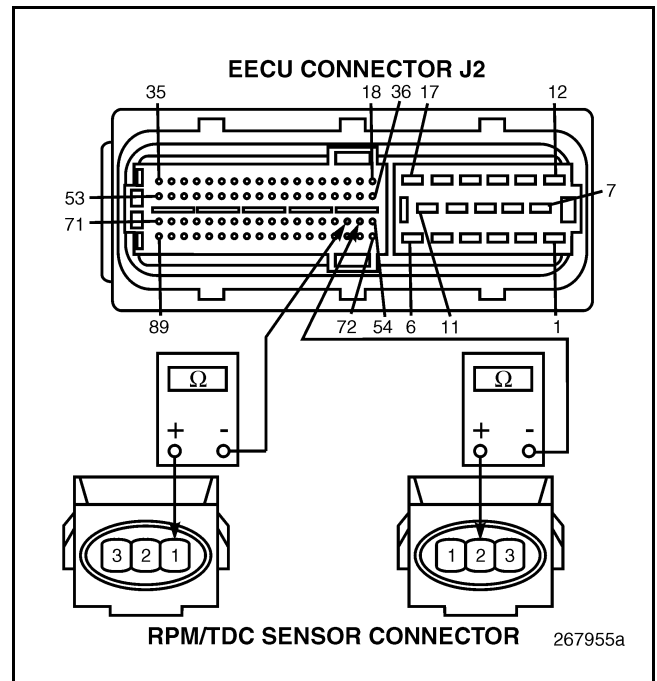

Figure 385
4. Have a helper wiggle the harness while you check for continuity between RPM/TDC Sensor connector pin 1 and EECU connector J2 pin 56 and between RPM/TDC Sensor connector pin 2 and EECU connector J2 pin 55 (see Figure 385).